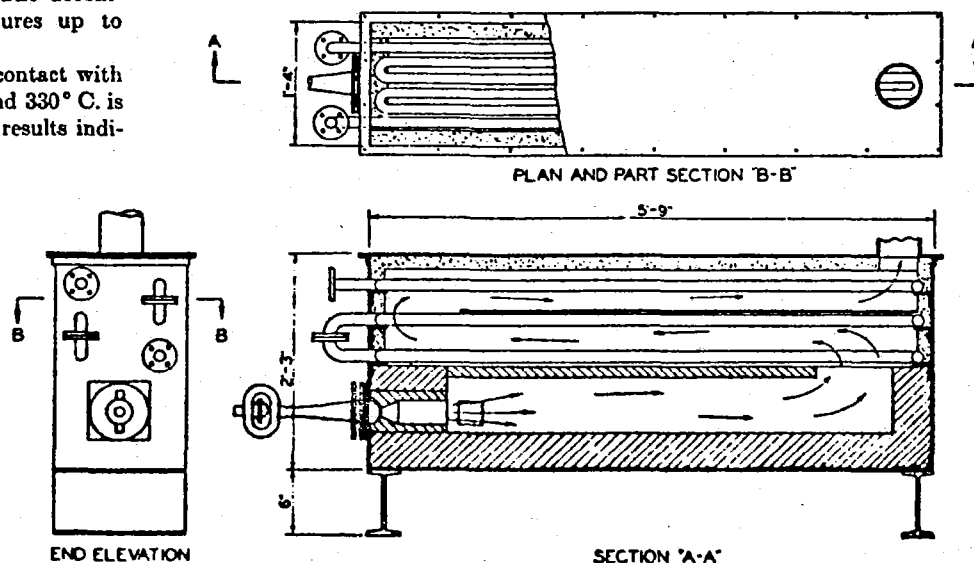
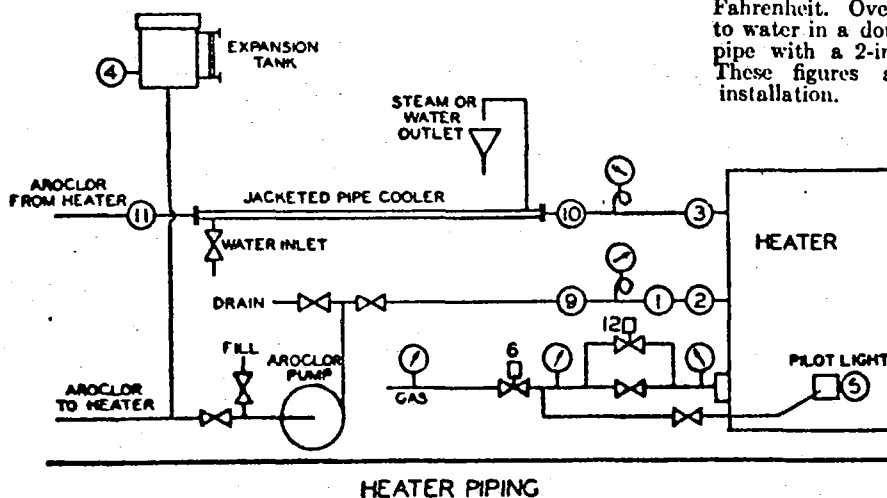
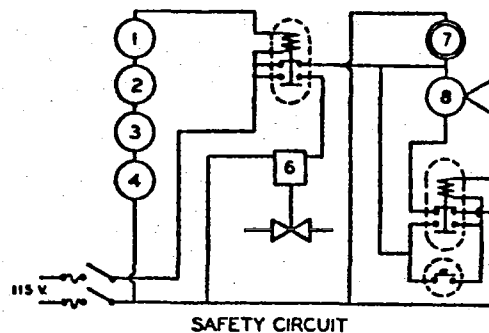

Figure 1. Heater
Figure 2. Cooler, Pump, and Expansion Tank
Figure 3. Control and Safety Circuit
**HEATING SYSTEM.** The heating system required to utilize Aroclor 1248 as the exchange medium includes a heater (Figure 1), cooler, pump, and expansion tank (Figure 2), and control and safety circuits (Figure 3).
Two sizes of units are used: One has a maximum capacity of 200,000 B.t.u. per hour, as shown in Figure 1. The larger has a range of 200,000 to 400,000 B.t.u.
**COOLER.** A very useful adjunct to the system is a double pipe cooler on the outlet of the heater shown in Figure 2. By turning water into the jacket, the Aroclor can be cooled and the temperature of the system lowered. This is helpful when it is necessary to cool a batch before removing it or when an exothermic reaction starts to get out of control.
In order to establish operating conditions and to check the operation of the heater itself, it is often desirable to measure the temperatures of the Aroclor in and out of the heater and cooler. Items 9, 10, and 11 (Figure 2) provide for this. They may be dial thermometers or mercury bulb thermometers of any commercially available type recommended for the service.
**SAFETY CIRCUIT.** Figure 3 shows a safety circuit which automatically protects the system by closing off the gas supply in the event of faulty operating conditions. Provision is made for shutting off the warning horn while the system is being put back into operation after a safety shutdown.